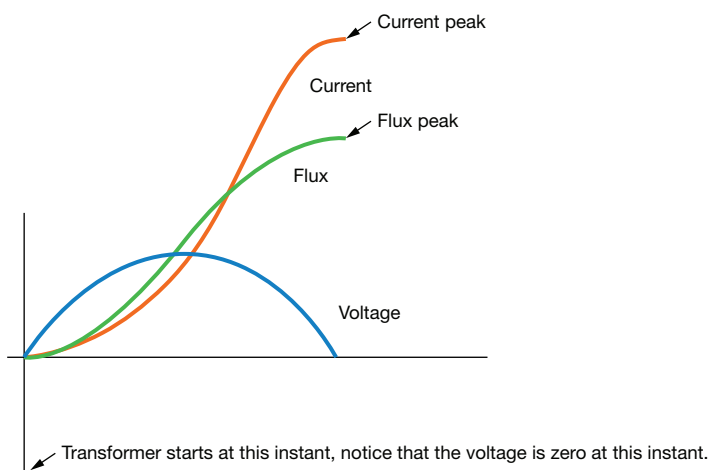

Fig. 10 - Transformer Wave - Inrush
- If at turn-on, the AC wave is going through its zero value, then the current drawn will be very high and exceed the saturation current (see Fig. 10)